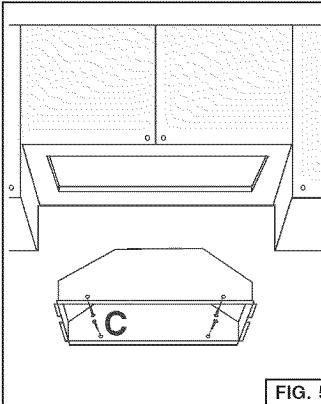
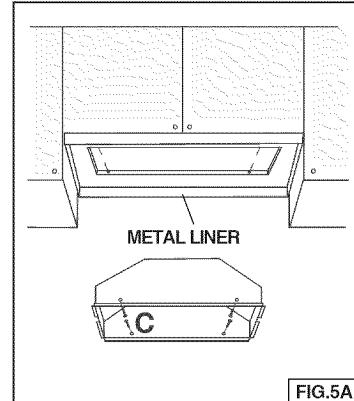

FIG. 5
FIG. 5A
4. NOTE: For installations where the Power Pack is less than 30" above cook top, it is recommended that the Power Pack be mounted into a metal liner or non-combustible material. This will allow easier cleaning and provide protection to the cabinetry (Fig.5A).
6. Insert the hood in the cabinet (Fig. 5) or metal liner (Fig. 5A) and secure with the (4) "C" mounting sheet metal screws. (Fig. 5 - wood bottom installation; recommended thickness 1/2"-3/4").